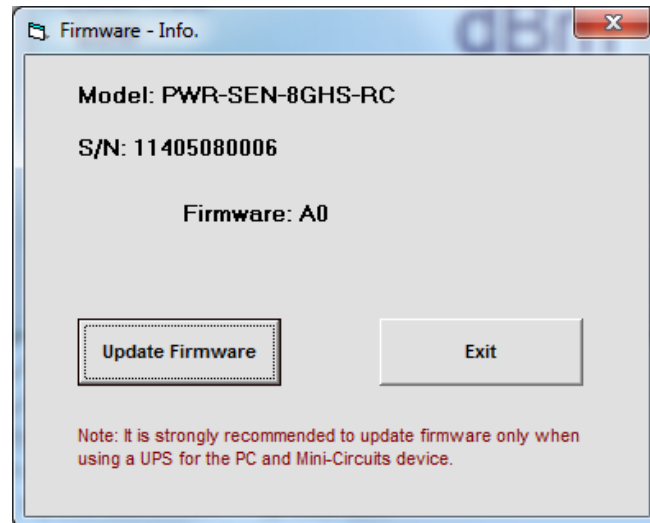

Figure 3.7.4: Firmware Information Window
3.7.4 **Click on the 'fw' indicator**, this will cause the firmware - info window to open (See Fig. 3.7.4). The 'Firmware' listed is the version of the firmware installed in your smart power meter. Click on "Update Firmware" to select a new firmware version to install or click 'Exit' to close the firmware – info window.